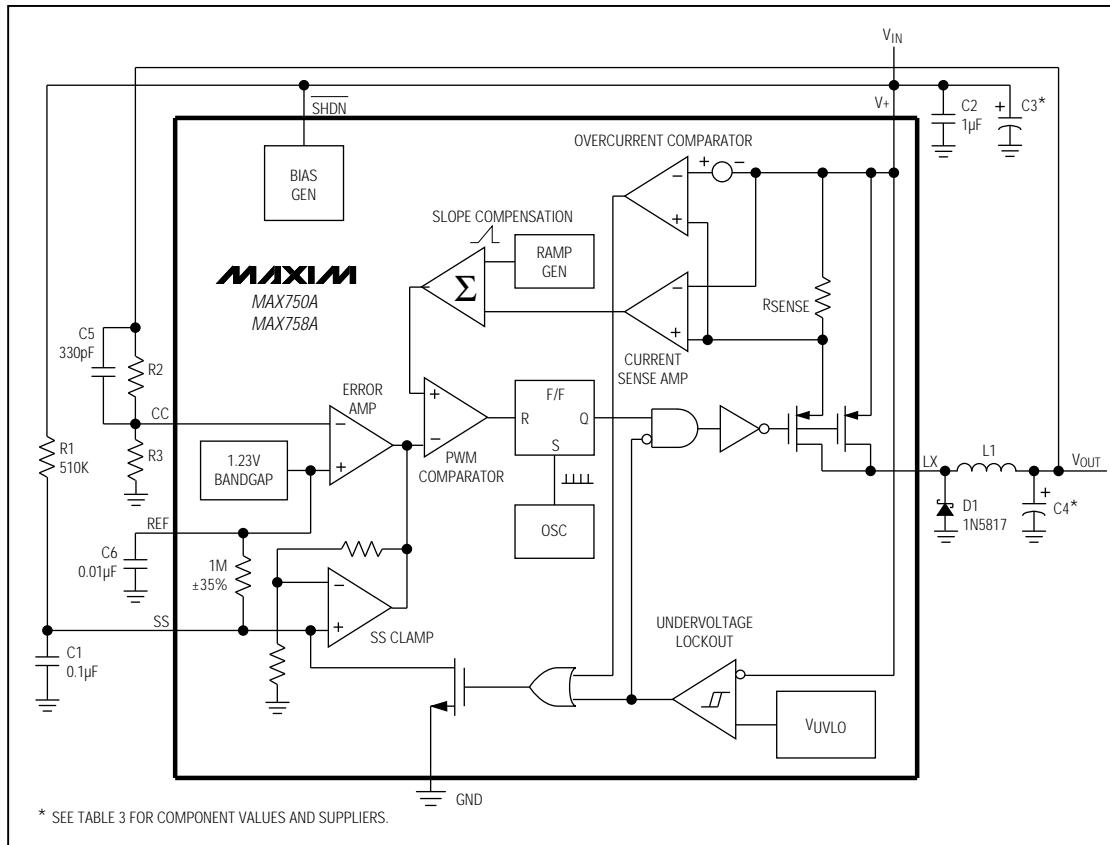

Figure 1. Detailed Block Diagram with External Components
The controller consists of two feedback loops: an inner (current) loop that monitors the switch current via the current-sense resistor and amplifier, and an outer (voltage) loop that monitors the output voltage through the error amplifier (Figure 1). The inner loop performs cycle-by-cycle current limiting, truncating the power-transistor on-time when the switch current reaches a predetermined threshold. This threshold is determined by the outer loop. For example, a sagging output voltage produces an error signal that raises the threshold, allowing the circuit to store and transfer more energy during each cycle.
Figures 1 and 2 show a capacitor and a resistor connected to the soft-start (SS) pin to ensure an orderly power-up. Typical values are 0.1 $\mu$ F and 510k $\Omega$ . SS controls both the soft-start timing and the maximum output current that can be delivered while maintaining regulation.